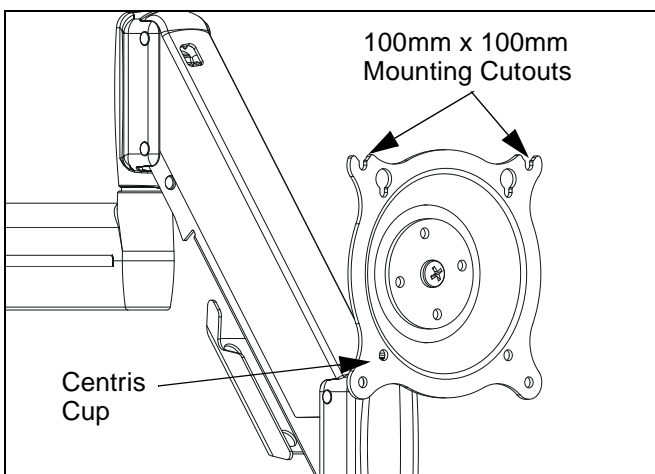

Figure 2
Ensure Centris head is able to swivel and tilt easily, yet still be tight enough to hold display in desired position (See Figure 2). Adjust as required before proceeding. See "ADJUSTMENTS" for detail.
4. Orient Centris cup so that 100mm x 100mm mounting cutouts are on top (See Figure 2).